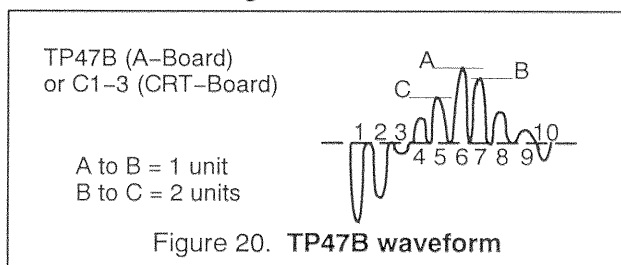

Figure 20. TP47B waveform
1. In the Serviceman Mode for making electronic adjustments, select DAC Sub-Tint Adjustment (B1). Adjust until the waveform measured is as the one shown in Figure 20.